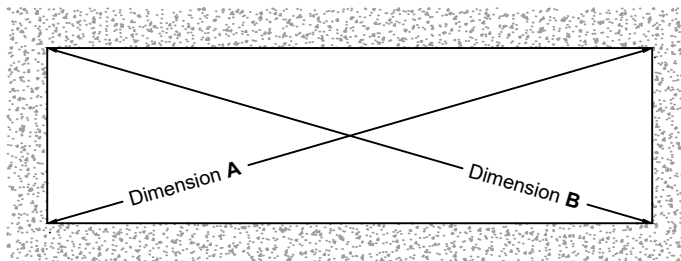

Fig. 22.1
- A. Make sure the opening is square and plumb. Measure each diagonal of the opening. SEE Fig. 22.1.